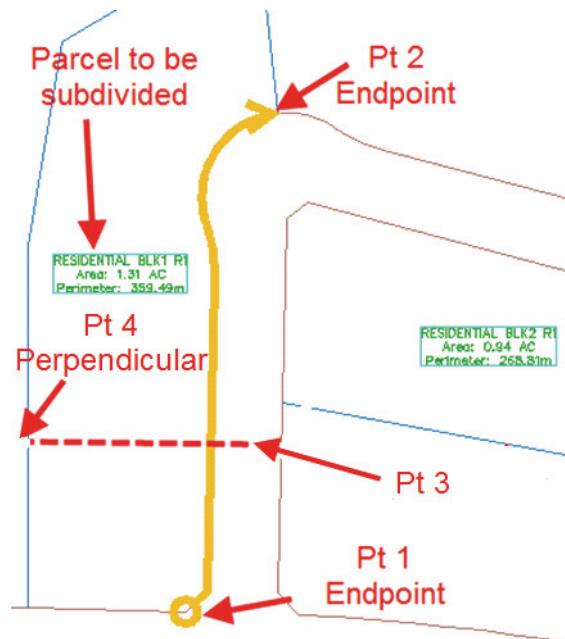

Figure 2-33
9. When you are prompted for the *starting point on frontage*, select the south end of the corner cut. Press <Ctrl>, right-click, and select **endpoint**. Then select the corner cut, **Pt1**, shown in Figure 2-33.
10. When prompted for the *end point of the frontage*, set the end point of the property line to the north, **Pt 2**, as shown in Figure 2-33. Use the same process as the previous step to set the end point.
11. When prompted for the *angle of the property line* that will be used to define each lot, select a point east of the parcel near **Pt 3**, as shown in Figure 2-33. For the second point, press <Ctrl>, right-click, and select **Perpendicular**. Then select the line at Pt 4.